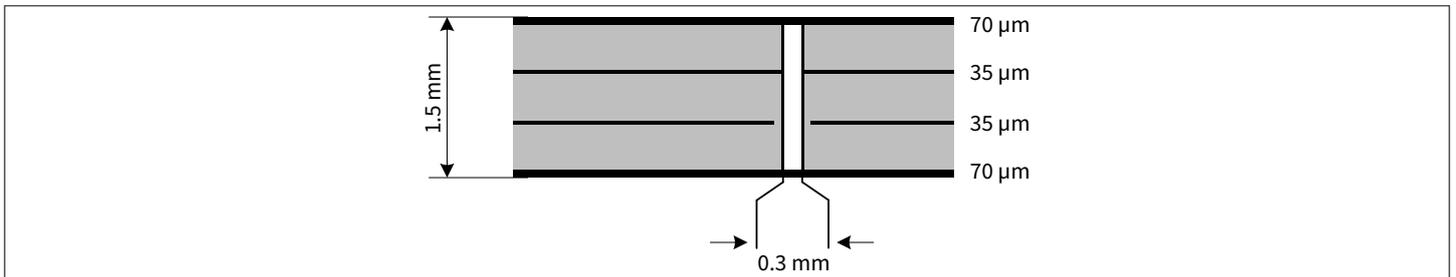

Figure 5 2s2p PCB Cross Section
- 2) Specified R_{thJA} value is according to JEDEC JESD51-2,-5,-7 at natural convection on FR4 2s2p board with 1 W power dissipation at $T_A=105^{\circ}\text{C}$; The product (chip + package) was simulated on a 76.4 x 114.3 x 1.5 mm board with 2 inner copper layers (2 x 7 μm Cu, 2 x 35 μm Cu). Where applicable, a thermal via array under the exposed pad contacts the first inner copper layer. Please refer to Figure 5